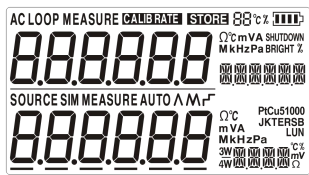

Figure 2.1-2
2. Press  more than 2 seconds to turn on the calibrator. The screen will display all the contents for 1 second as shown in Figure 2.1-2.